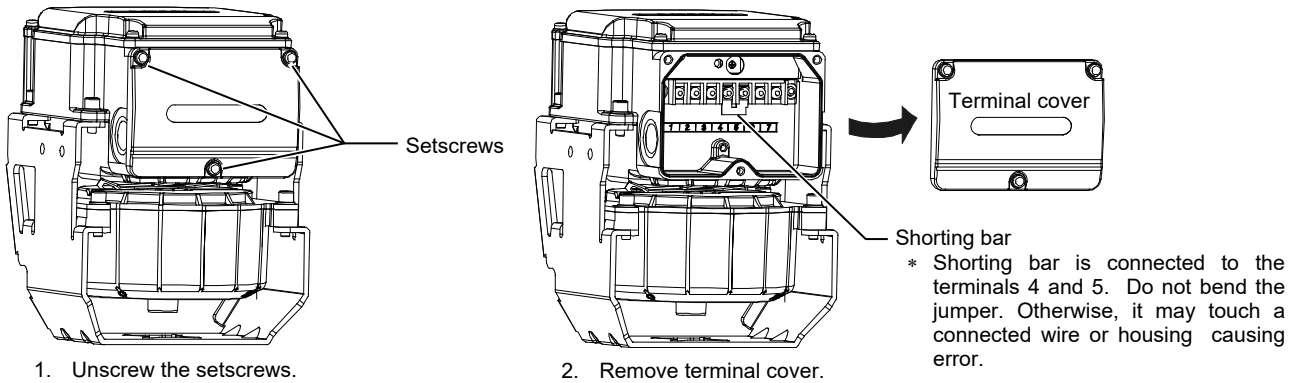

Figure 11. Terminal cover removal
- 2) Unscrew the 3 setscrews (M4 × 10) of the terminal cover and remove the terminal cover, as shown in Fig. 11.
- 1) Unscrew the setscrews and remove the terminal cover. See Fig. 11 for removing the terminal cover.